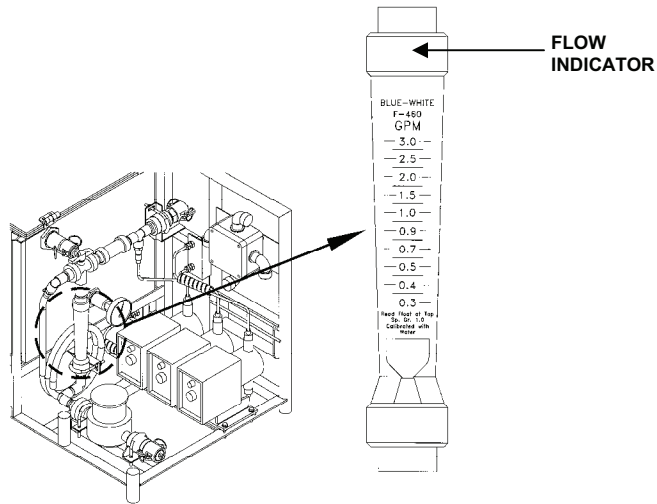

Figure 30. Product Water Flow Meter.
16. Observe float inside flow meter (PRODUCT WATER FLOW METER). Flow is read at the top of the float on the flow meter. See Figure 30.